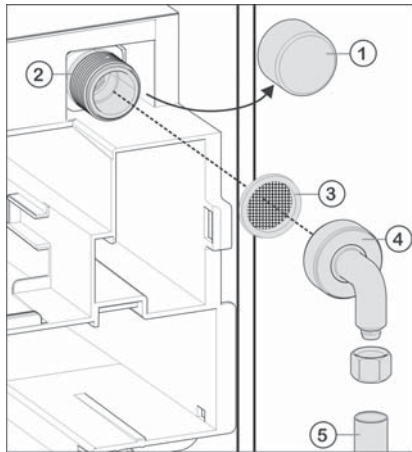

Fig. 27
- ▶ Remove the cap Fig. 27 (1) from the solenoid valve Fig. 27 (2).
- ▶ Ensure that the gasket Fig. 27 (3) is inserted in the elbow connection Fig. 27 (4) supplied.
- ▶ Connect the elbow adapter Fig. 27 (4) to the solenoid valve Fig. 27 (2) and tighten with an open-ended wrench, for example.
- ▶ Connect the domestic water supply Fig. 27 (5) (e.g. copper pipe) to the elbow connector Fig. 27 (4).